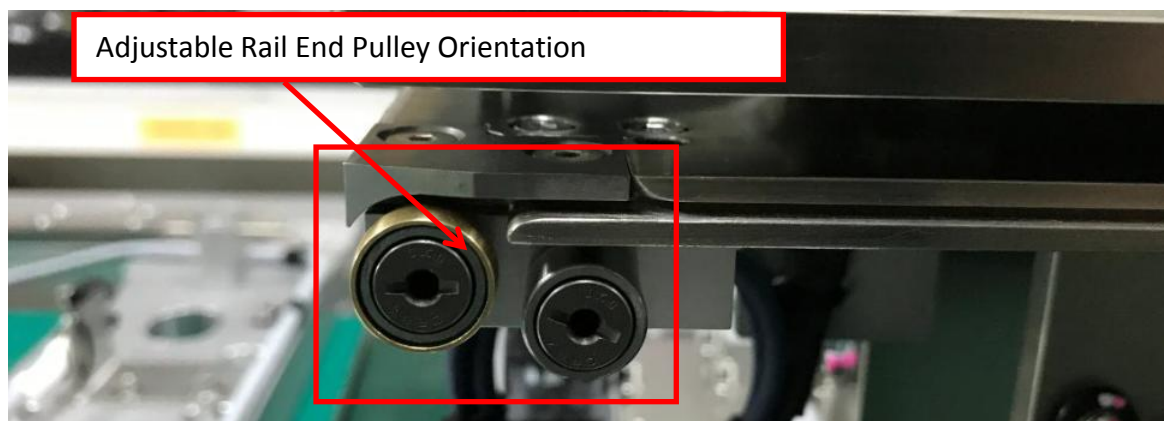
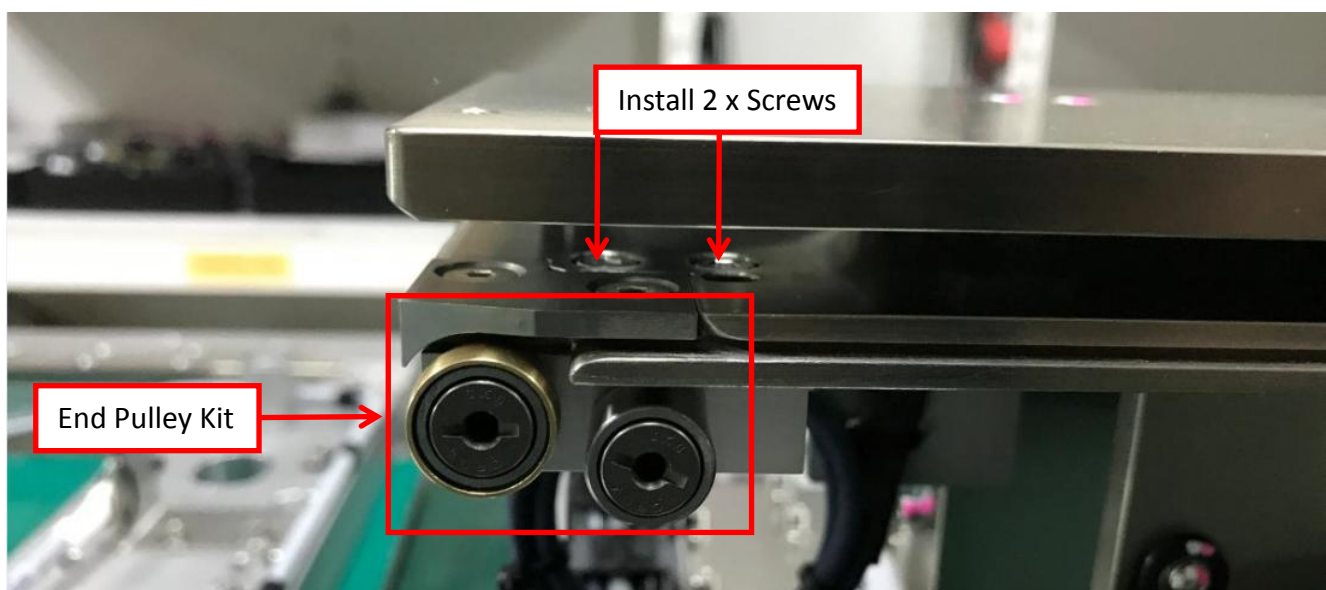

Figure 26 Adjustable Rail End Pulley Orientation
Figure 27 Adjustable Rail End Pulley Assembly
2. Install Adjustable Rail End Pulley Kit into Adjustable Rail as shown in Figure 26. Tighten 2 x Screws at Adjustable Rail End Conveyor Pulley as Figure 27